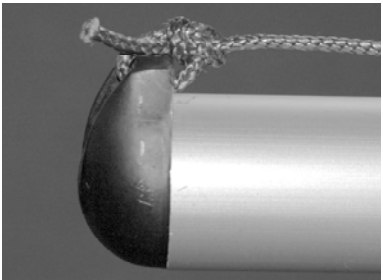

Figure: 38
1. Using the outhaul line, tie a bowline to the lower boom end cap (Figure 38).